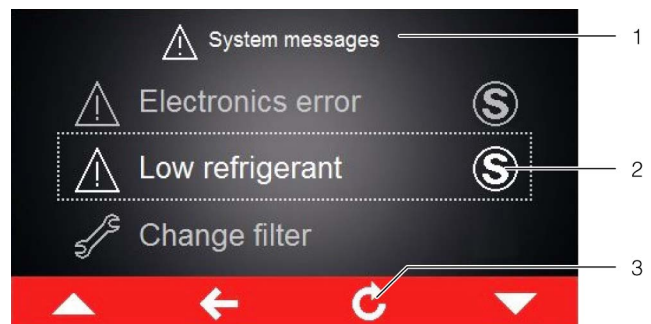

Fig. 18: Screen showing error messages
If an error message applies that cannot be resolved by the operator himself and which is not reset automatically, the "Service" symbol will appear after the error message and in the control bar next to the symbol for system messages (fig. 18, item 2).